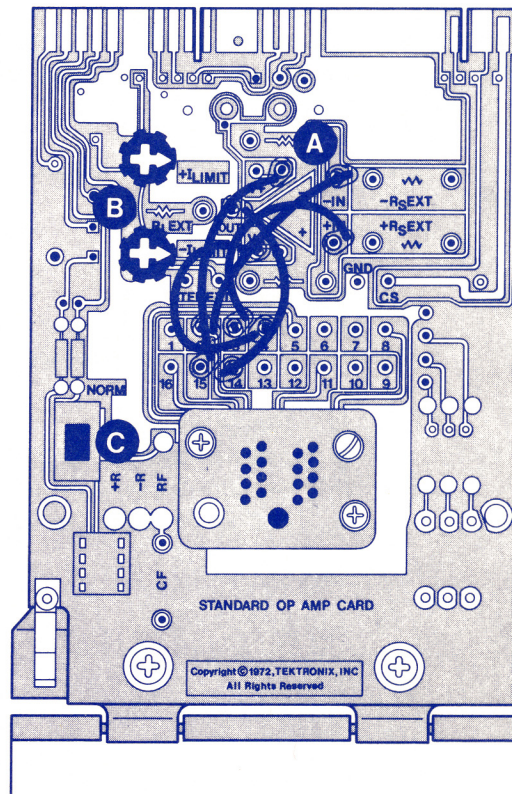

Figure 0-3 Standard op amp card.
- a) Connect jumpers — using Op Amp symbol drawn on card and basing diagram from specifications for device to be tested, connect jumpers between socket pin pc board connectors and corresponding function. At least $V+$, $V-$, $+IN$, $-IN$, and OUT must be connected. (See Figure 0-3 for connections for 741-type devices.) **A**
- b) Set current limits—there are separate current limit controls for $V+$ and $V-$ supplies on card. See Figure 0-3. **B** Adjustment range is approximately 10 mA (ccw) to 150 mA (cw). Set to center. Alternately set to appropriate value for device to be tested. (For procedure for more exact setting, see 577-178-D1 Linear IC Curve Tracer manual, p. 2-10.)
- c) Set feedback — Set switch on device card to NORM. See Figure 0-3 **C**